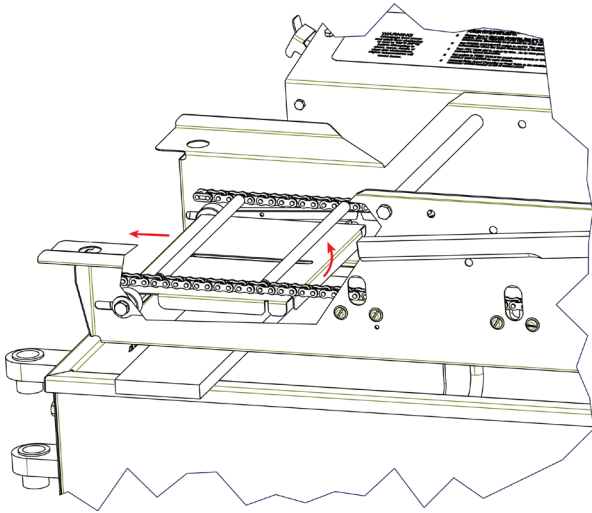

Figure 12
10. To clean the drop plate, remove it by lifting its outfeed end and sliding it toward the infeed side of the conveyor. See Figure 12.